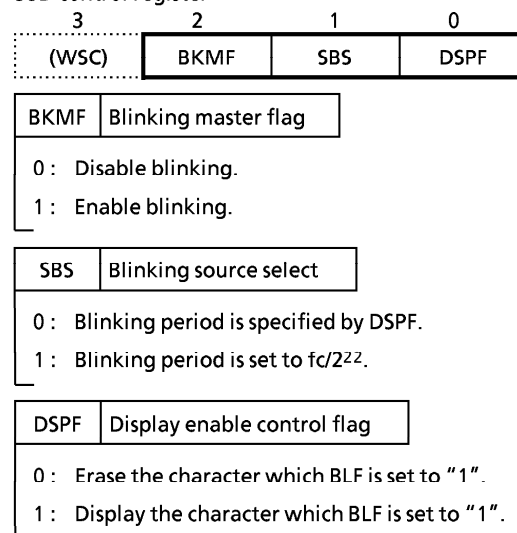
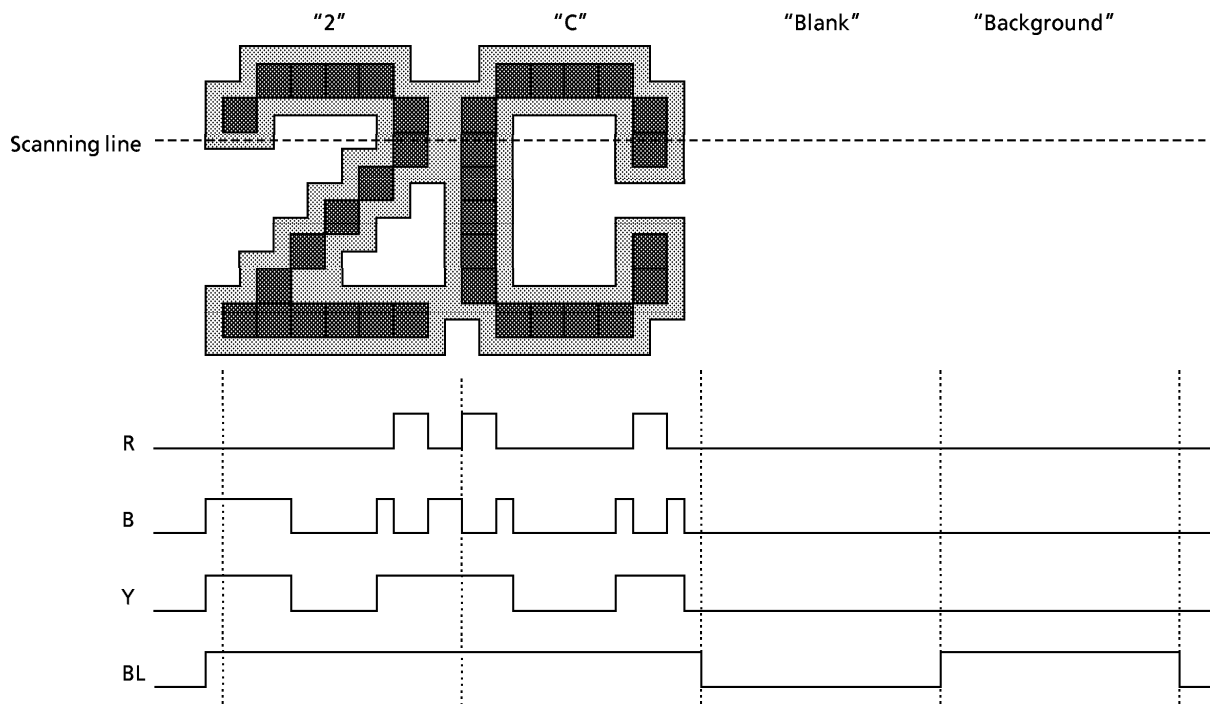

Figure 3-14. Control of Blinking Function
Figure 3-16. Example of OSD Display and Its Wave Form (2)
Figure 3-14 shows display example (1). The conditions for this example are as follows:
- ① Display data: 2, C, blank data (character code 7F_H), background (character code 7E_H).
- ② Color data: RDT = 1, BDT = 0, GDT = 0.
- ③ Background color data: BRDT = 0, BBDT = 1, BGDT = 0.
- ④ Fringing and smoothing disabled.
- ⑤ This screen display example is controlled by the R, B and BL signals.
Figure 3-16 shows display example (2). The conditions for this example are as follows:
- ① Display data: 2, C, blank data (character code 7FH), background (character code 7EH).
- ③ Background color data: BRDT = 0, BBDT = 1, BGDТ = 0.
- ④ Fringing enabled and smoothing disabled.
- ⑤ This screen display example is controlled by the R, B and Y signals.